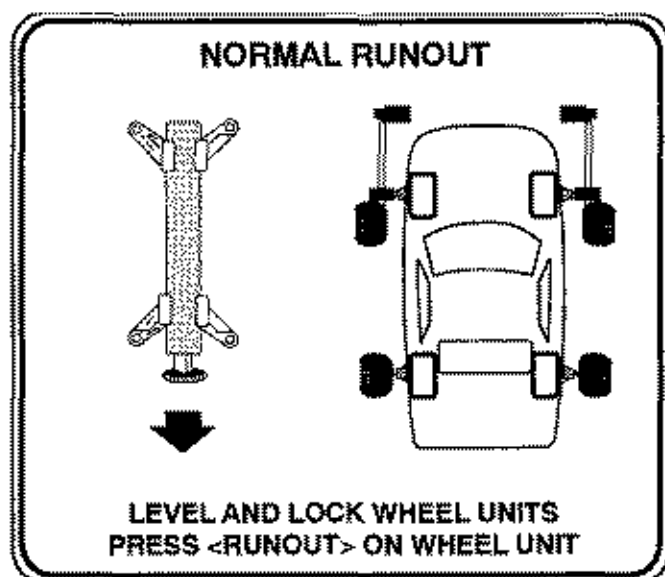

Figure 2-11
The right side of the "Runout" screen displays a top-view of the vehicle with all four wheel units (see Figure 2-11). The left side displays a wheel clamp pointing down. The bottom of the screen displays the message "Level and Lock Wheel Units. Press [RUNOUT] on wheel unit." The "Knob Down" indicator on all of the wheel units will be lit.
2. Loosen the small black knob on the wheel unit (not the wheel clamp). Spin the runout wheel 180° so the wheel clamp knob is pointing down, as in the picture on the screen (see Figure 2-11).